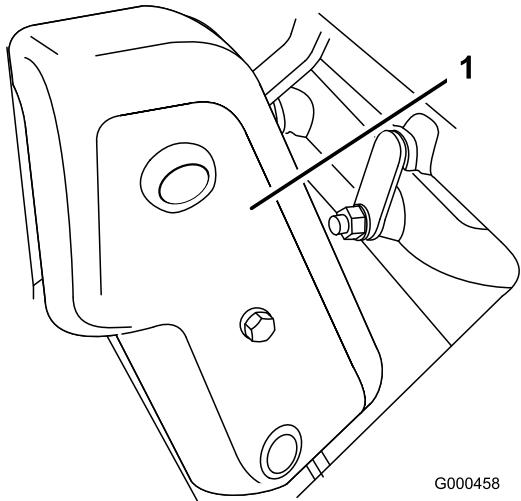

Figure 37
1. Remove the belt cover mounting fasteners and belt cover to expose belt (Figure 37).